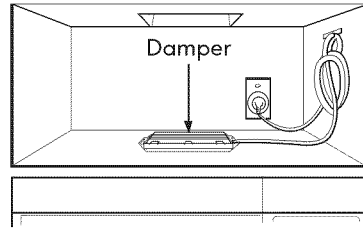

Figure 32
5. Roof vented installation: See **Figure 32**.